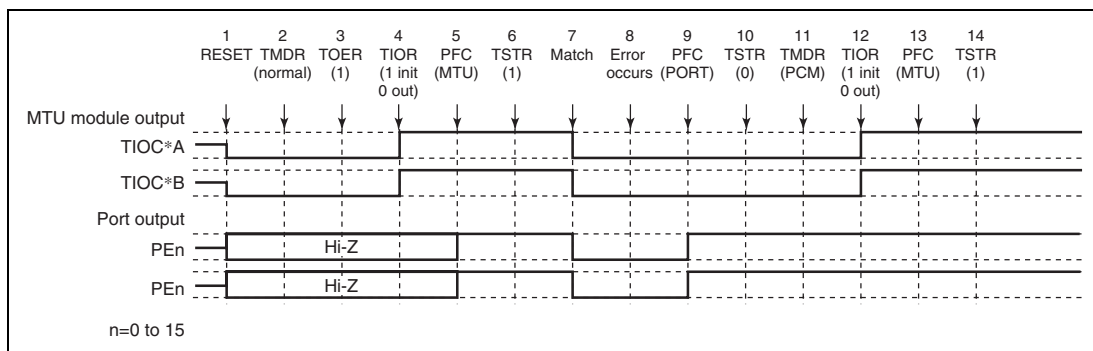

**Figure 11.88 Error Occurrence in Normal Mode, Recovery in Phase Counting Mode**
**Operation when Error Occurs during Normal Mode Operation, and Operation is Restarted in Phase Counting Mode:** Figure 11.88 shows an explanatory diagram of the case where an error occurs in normal mode and operation is restarted in phase counting mode after re-setting.